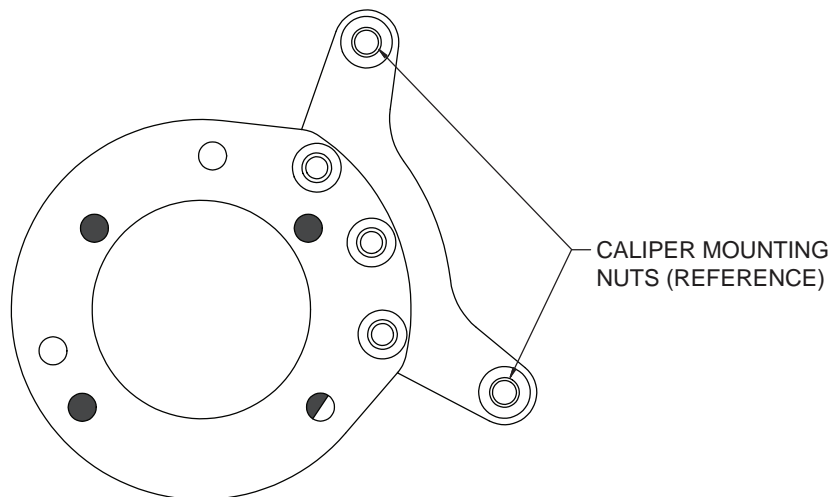
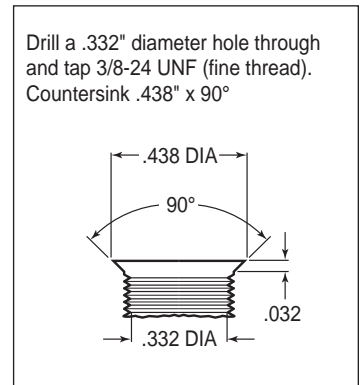
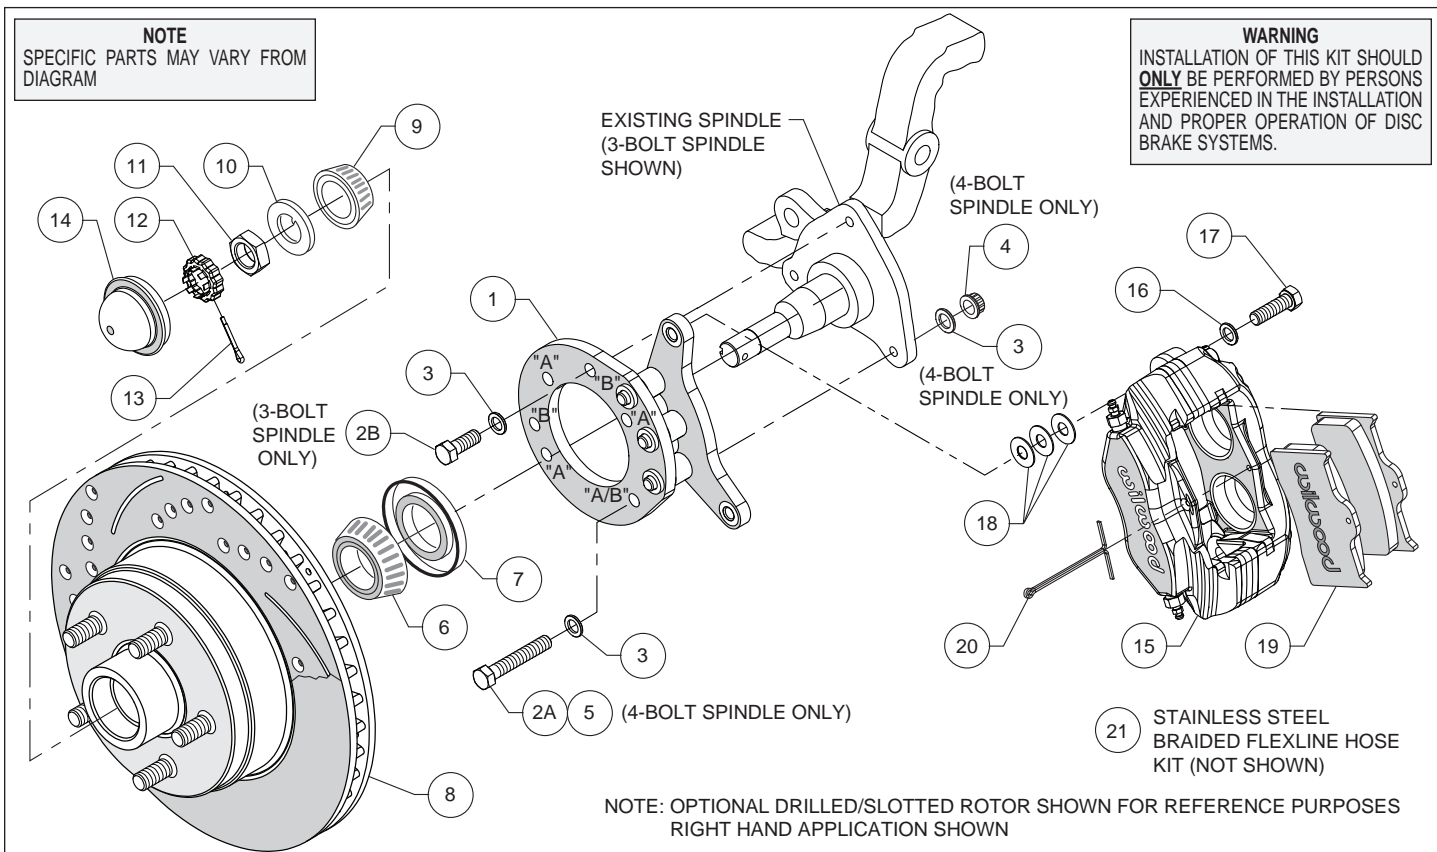
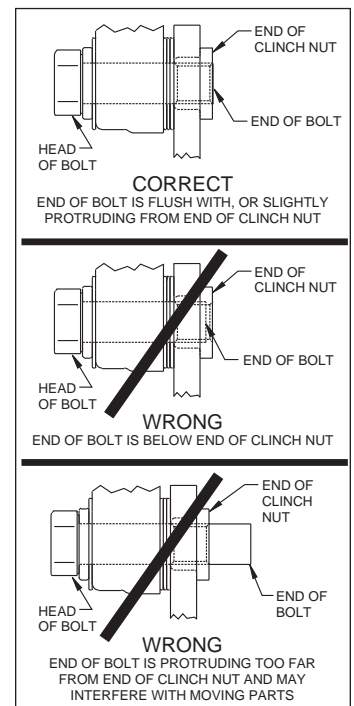

Figure 1. Wilwood Caliper Mounting Bracket
Figure 2. Drill and Tap Detail
Figure 4. Typical Installation Configuration
Figure 5. Clinch Nut Engagement Diagram
This kit has been designed for use with both three and four bolt spindle configurations. The only difference is in how the Wilwood caliper mounting bracket is installed. The same bracket is used for both configurations; only the 1968-69 disc brake spindle utilizes three mounting holes while all other spindles use the four mounting holes (see Figure 1). For your convenience we have supplied bolt kits for both applications (see parts list and Figure 4 as necessary). Use the bolt kit that is applicable to your vehicle and disregard the other one.
NOTE: This modification should be performed by a qualified machinist and completed before assembly of the Wilwood disc brake kit begins. Using the caliper mounting bracket as a template (refer to Figure 1 as necessary), locate and verify the three original holes on the spindle that need to be modified. Drill a .332" diameter hole through all three holes, then tap 3/8-24 UNF (fine thread). Countersink the holes to .438" diameter x 90°, as shown in Figure 2.
Assembly Instructions (numbers in parenthesis refer to the parts list, and Figure 4): **CAUTION:** All mounting bolts must fully engage clinch nuts. Be sure to check that all bolts are either flush or protruding through flanged side of clinch nut after shimming, Figure 5.
•**NOTE:** This kit uses the same mounting bracket (1) for both the three and four bolt brake spindles. The 4-bolt version, Photo 1, uses four mounting bolts (designated "A"), while the 3-bolt version, Photo 2, uses three (designated "B"). Refer to Figures 1 and 4 for the basic installation position of the bracket and the "A" and "B" reference designations (not physically marked on the brackets).
For 4-Bolt Spindle: Align bracket, using the four "A" holes, to the face of the spindle and attach using bolts (2A and 5), washers (3), and lock nuts (4), as shown in Figure 4 and Photo 1. Ensure that the flanged heads of the clinch nuts in the bracket are facing outboard. Torque lock nuts to 30 ft-lb.
For 3-Bolt Spindle (1968-69 Disc Brake): Align bracket, using the three "B" holes, to the face of the spindle and attach using bolts (2B) and washers (3), as shown in Figure 4 and Photo 2. Finger tighten. Ensure that the flanged heads of the clinch nuts in the bracket are facing outboard. Remove bolts one at a time, apply red *Loctite*® 271 to threads, and torque to 40 ft-lb.
•Pack the large inner bearing cone (6) with high temperature disc brake bearing grease (available from your local auto parts store) and install into the backside of the hub (8), Photo 3.
•Install the grease seal (7) by pressing into the backside of the hub (8), flush with the end of the hub.
•Pack the small outer bearing cone (9) with high temperature disc brake bearing grease and install into the front side of the hub (8). Slide the hub/rotor onto the spindle. Secure using spindle washer (10) and spindle nut (11). Adjust bearings per OEM specifications. Install spindle nut retainer (12) and a new cotter pin (13), Photo 4.
•Press the dust cap (14) into hub (8), Photo 5.
•**NOTE:** Please reference the caution statement at the beginning of the assembly instructions. Mount the caliper (15) onto the caliper mounting bracket (1) using bolts (17) and washers (16), as shown in Figure 4. Initially place three .035" thick shims (18) on each bolt between the caliper and the bracket, Photo 6. Temporarily tighten the mounting bolts and view the rotor (8) through the top opening of the caliper. The rotor should be centered in the caliper, Photo 7. If not, adjust by adding or subtracting shims between the bracket and the caliper. Always use the same amount of shims on each of the two mounting bolts. **NOTE:** The end of each bolt must be flush with or slightly protruding from the head of the clinch nut, as shown in Figure 5. If necessary place spare shims between washer (16) and caliper mounting ear to achieve the proper clinch nut engagement. Once the caliper alignment and clinch nut engagement are correct, remove the bolts one at a time, apply red *Loctite*® 271 to bolt threads, and torque to 40 ft-lb.